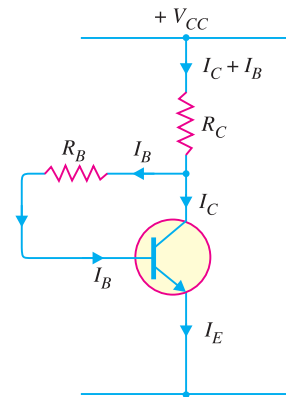

Fig. 9.19
In this method, one end of R_B is connected to the base and the other end to the collector as shown in Fig. 9.19. Here, the required zero signal base current is determined *not* by V_{CC} but by the collector-base voltage V_{CB} . It is clear that V_{CB} forward biases the base-emitter junction and hence base current I_B flows through R_B . This causes the zero signal collector current to flow in the circuit.
Circuit analysis. The required value of R_B needed to give the zero signal current I_C can be determined as follows. Referring to Fig. 9.19,
Note. It can be easily proved (See ******example 9.17) that Q-point values (I_C and V_{CE}) for the circuit shown in Fig. 9.19 are given by ;
** Put $R_E = 0$ for the expression of I_C in example 9.17. It is because in the present circuit (Fig. 9.19), there is no R_E .